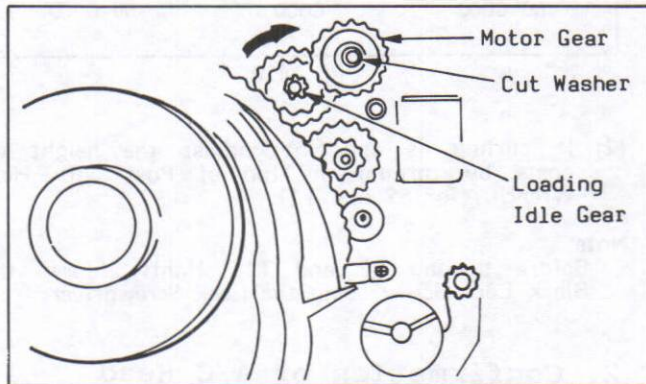

Fig.M13
- (6) Remove the Cut Washer and Motor Gear. Then place the Unit in play position completely by rotating Loading Idle Gear clockwise as shown in Fig. M13.